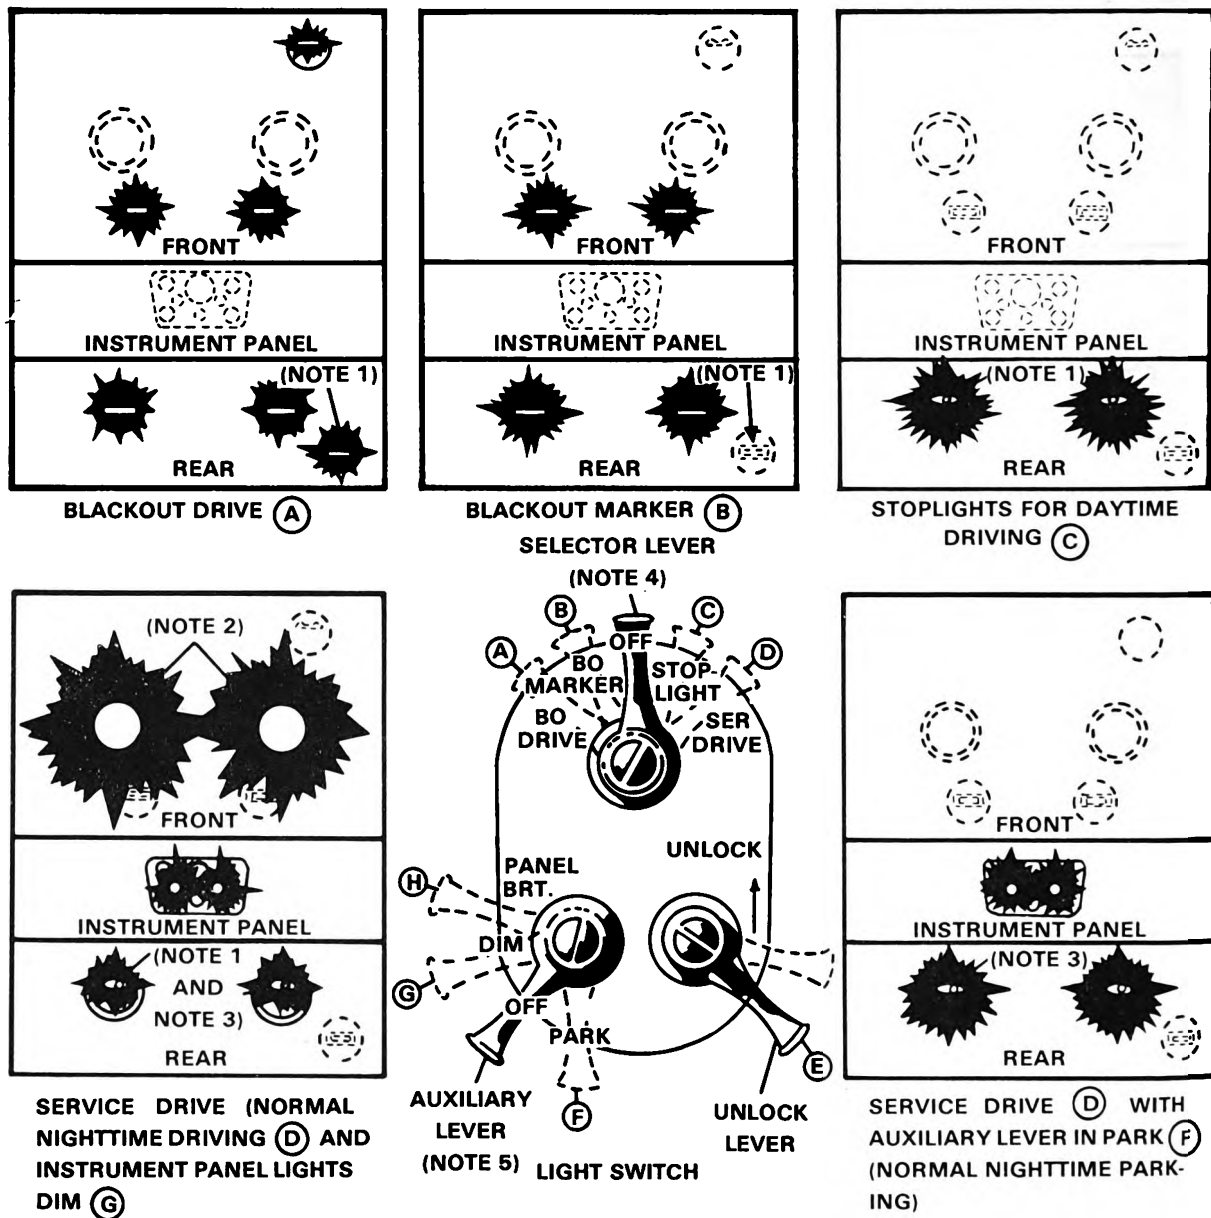

Figure 1.
Blackout Night Driving (figures 1 thru 3).
2. The blackout headlight, the blackout marker lights, and the blackout bulbs in each taillight will come on. The blackout stoplight will come on when the brake pedal is depressed (figures 1 and 2).